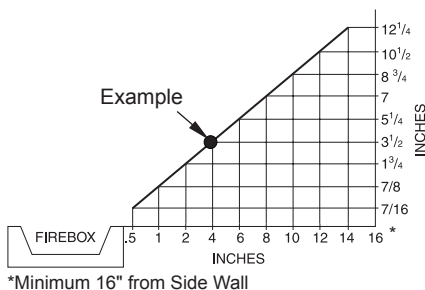

Figure 4 - Minimum Clearance for Combustible to Wall
- where curtains, furniture, clothing or other flammable objects are less than 36" from the front and 42" from top heater, For side clearances see Figure 4 page 10
A. Clearances from the side of the fireplace cabinet to any combustible material and wall should follow diagram in Figure 4.
Example: The face of a mantel, bookshelf, etc. is made of combustible material and protrudes 3 1/2" from the wall. This combustible material must be 4" from the side of the fireplace cabinet (see Figure 4).